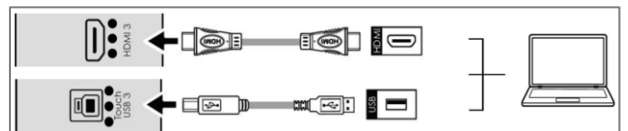

Figure 3-7. Touch Screen Controller (Type C, USB) Connection
- Your computer is turned on and connected to the display using Type C or the provided USB cable (for DisplayPort and HDMI source connections). Make sure connect the cable to the display by following the corresponding indicating dots on I/O ports. See Figure 3-7.